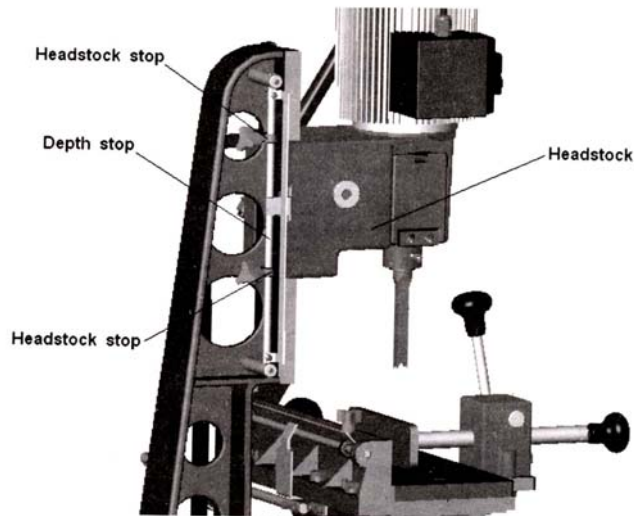

FIGURE 4
1. Set depth stop to the required depth of cut. See Figure 4